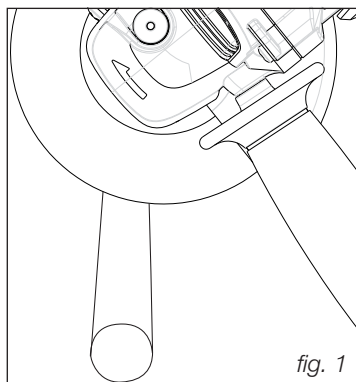

fig. 1
- Cut-off discs must only be used for cutting (fig. 1), they must never be subjected to side forces.